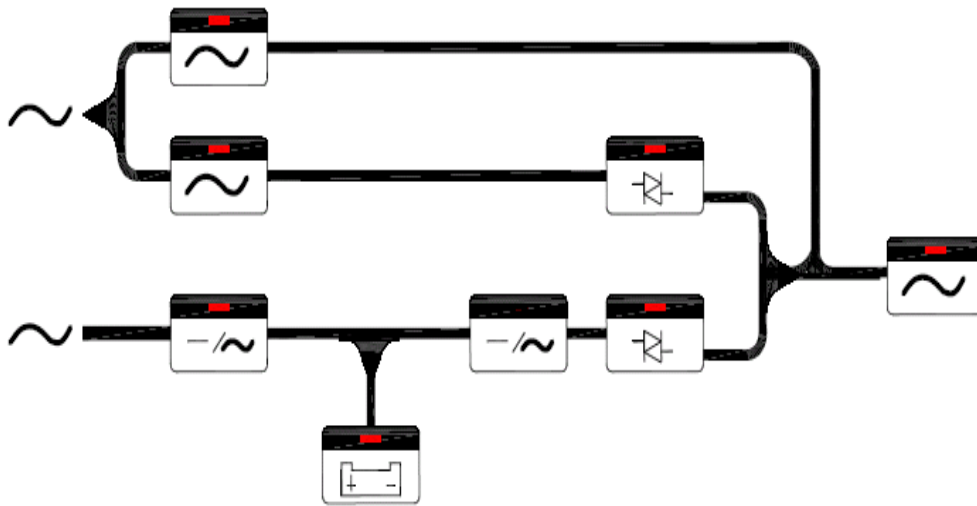

Figure 5.1 Mimic Display under normal operation
12. Push inverter ON switch – To turn on the inverter, the inverter ON switch (I) and the control switch (◀▶) must be pressed simultaneously. The inverter will start working and the inverter output will be established in 4 seconds. The load will automatically be transferred to the inverter 3 seconds later. Now the unit is in normal operation.
13. Check if the mimic LED is correct, as shown in Figure 5.1. All warning LEDs on the right side are off, two LEDs: 'INVERTER ON' and 'INVERTER SS' on the left side should be lit. If the load is over 70%, the '70% LOAD' LED will also be lit.